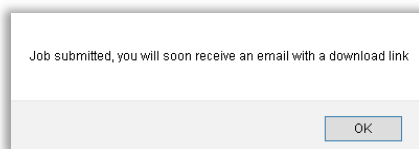

Figure 28. System message after pressing the Execute button.
- Provide a valid e-mail address and click the **Execute** button. The pop-up in Figure 28 will appear. No other action is required.